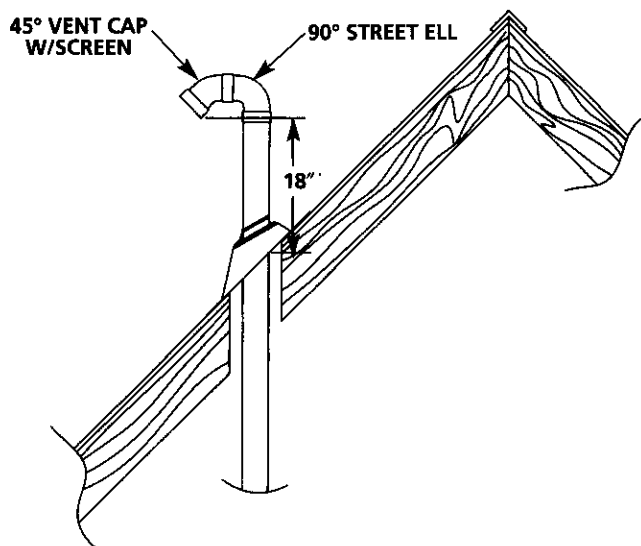

Figure 7
- The Vent Exhaust outlet and air inlet terminals shall terminate at least 18 inches above the roof surface. Figure 7.